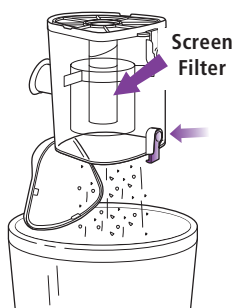

Fig. 20
- 3 If needed, turn the dust cup upside down over the trash receptacle and press the top door release button. **(Fig. 20)** Tap gently to remove contents.